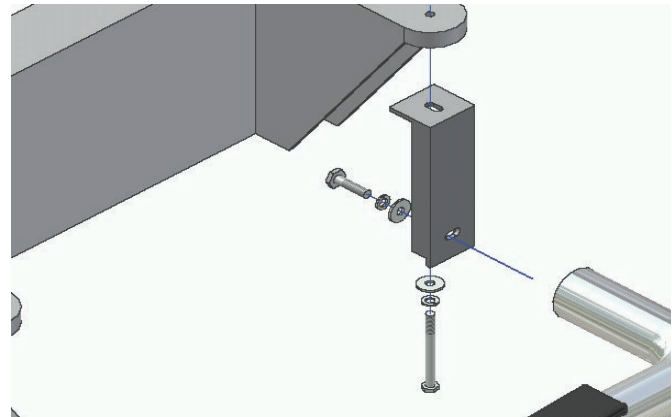

Figure 4 - Rear bracket
3. Attach and secure the rear mounting bracket to the underside of vehicle's rear body mount, as shown in figure 4, similar to the front bracket.